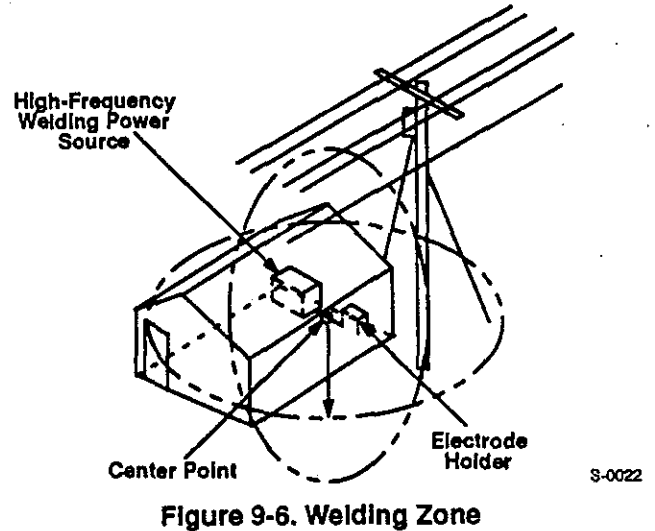

Figure 9-6. Welding Zone
The welding zone is the space within 50 ft. (15 m) in all directions from the midpoint between the power source and the welding arc (see Figure 9-6).
9. Visualize the welding zone as a sphere with a 50 ft. (15 m) radius centered on a point between the power source and the electrode holder (see Figure 9-6), and proceed as follows: